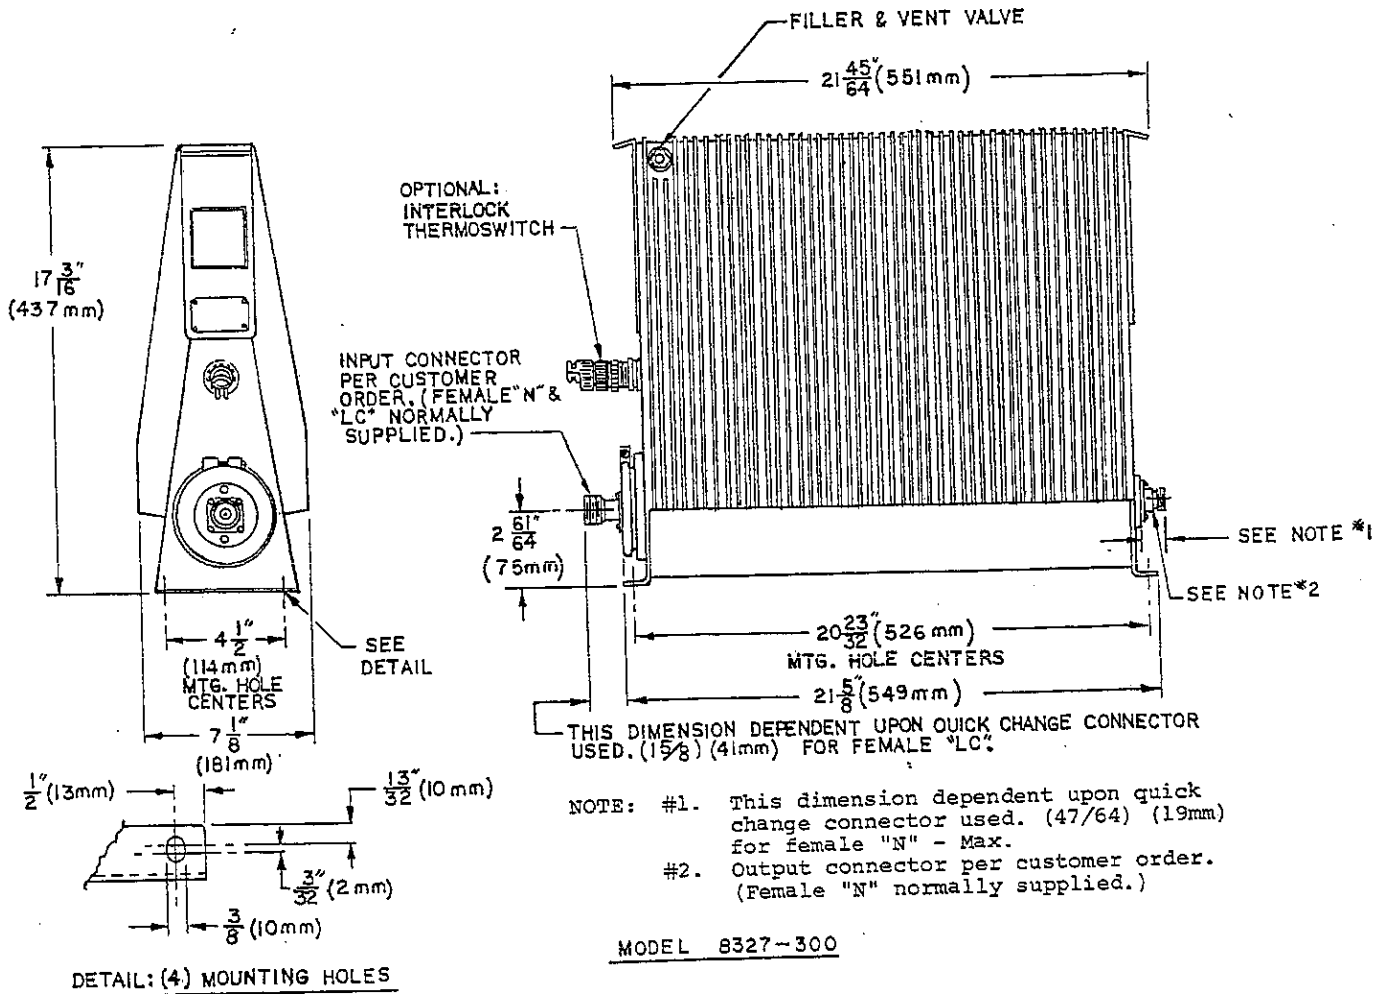

Figure 2-2. Model 8327-300 Dimensional Outline
b. Using a 9/16 Allen wrench, carefully remove the socket plug located just above the connector, on the front face of the radiator (see figure 2-2).